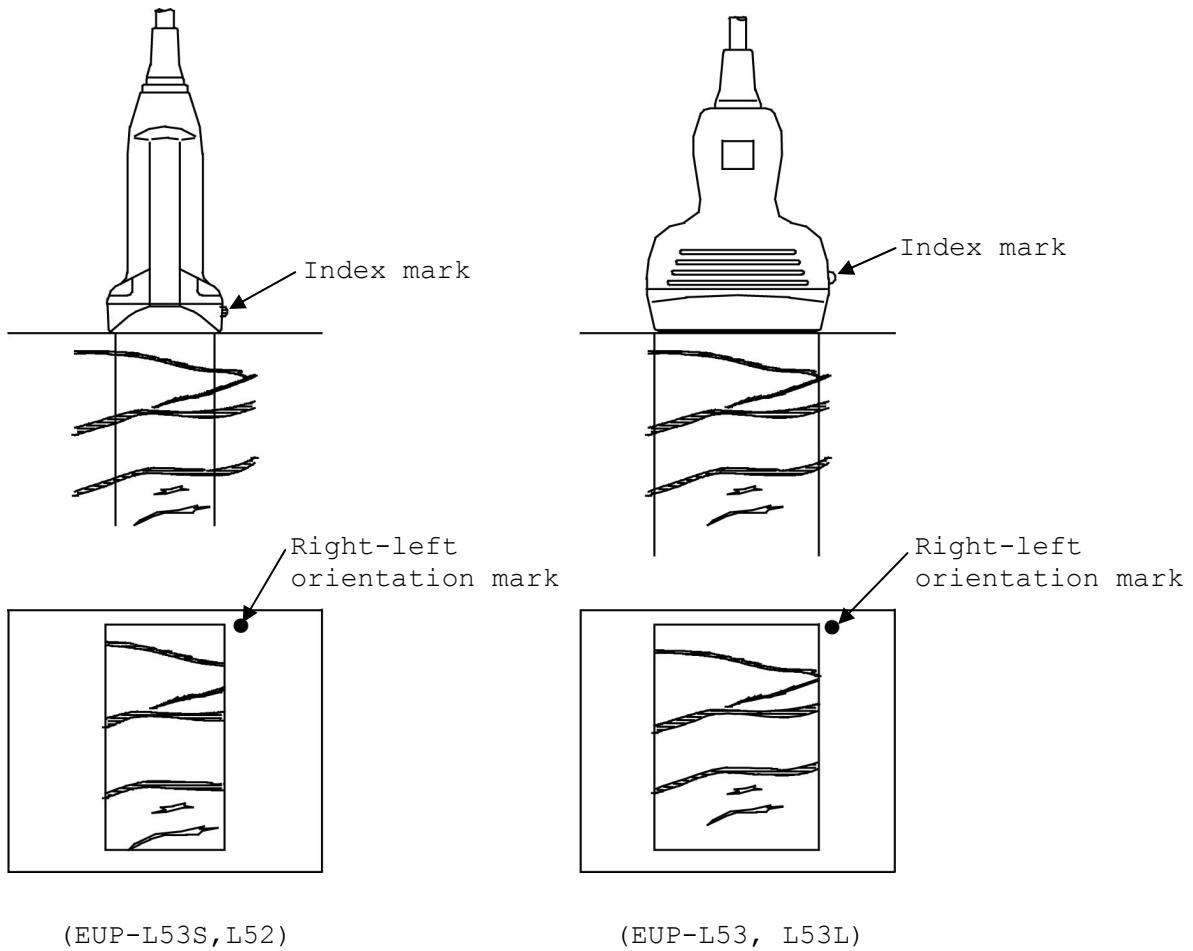

Fig. 3 Relationship between Index Mark and Right-left Orientation Mark
- 2) Relationship between direction of the probe and the image is shown in Fig. 3. The right-left orientation mark on the image indicates the direction of the index mark on the probe.